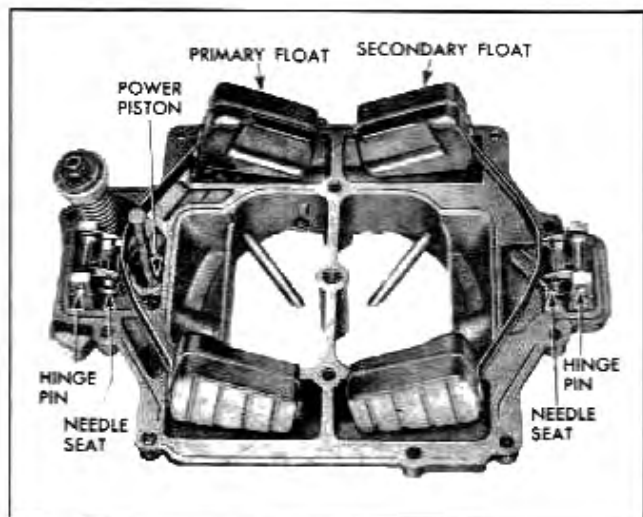

Fig. 6B-41 Air Horn Inverted
8. Carefully remove air horn by lifting straight up, until all parts are clear of carburetor body (Fig. 6B-40).